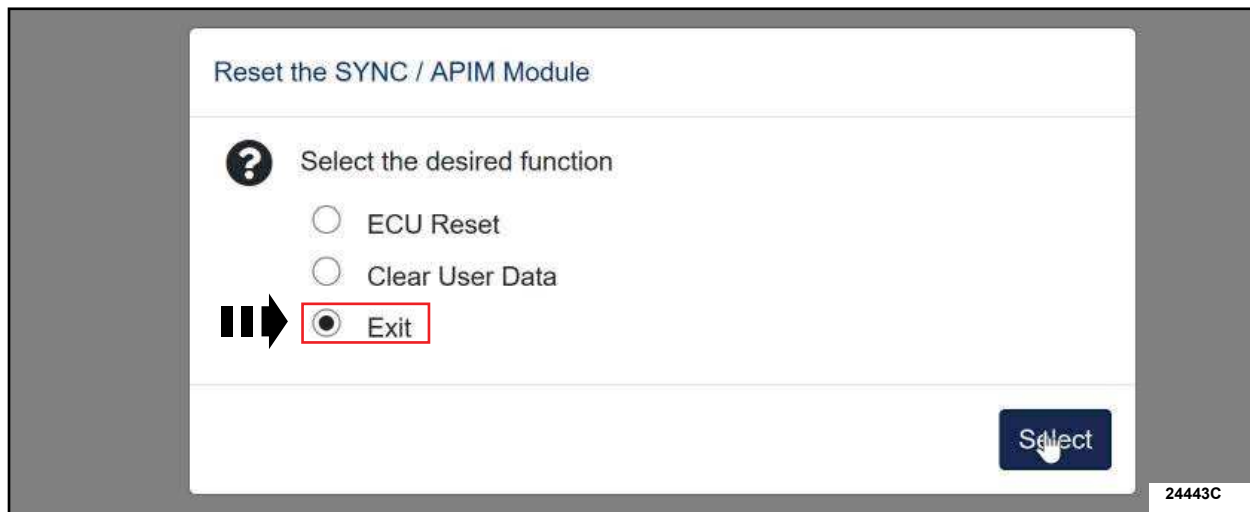

FIGURE 4
12. Once prompted click **Exit**. See Figure 4.